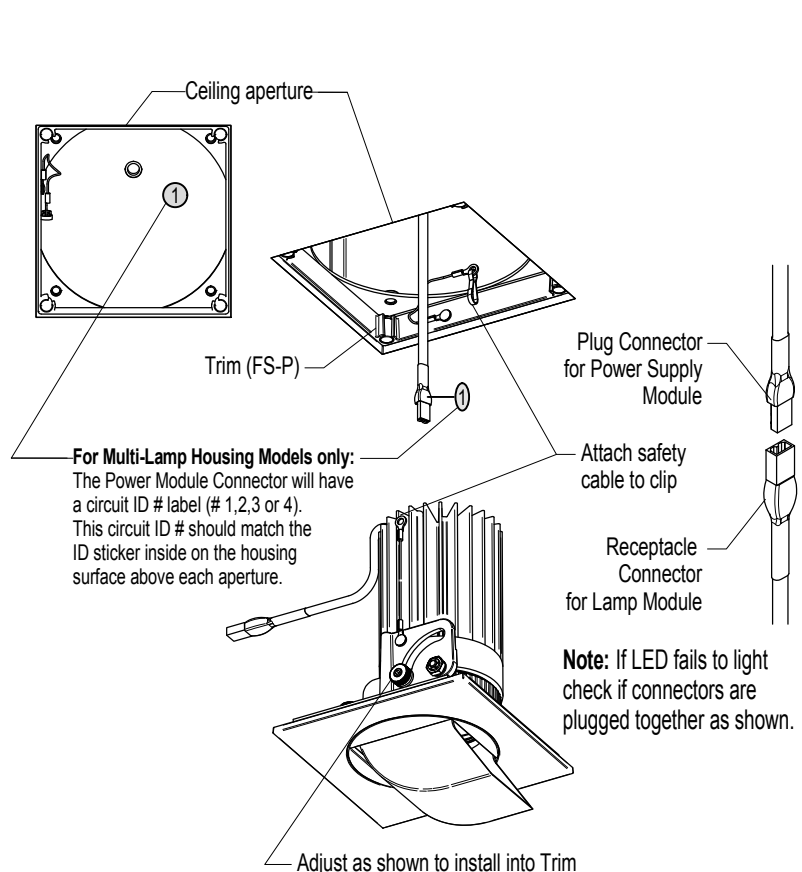

FIG. 4.4 Securing Lamp Module to Housing & Trim
Step 3 Plug Wire Connector from Lamp Module into Power Supply Module Connector. Push wire up inside Housing to avoid interference during installation - Fig 4.4.